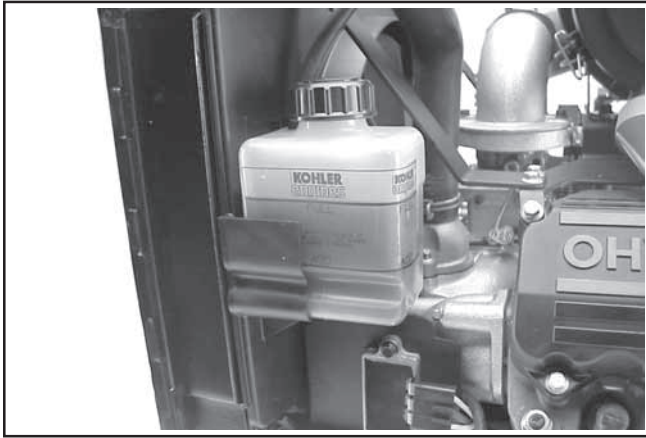

Figure 10. Coolant Levels on Reservoir.
1. Check the coolant level in the overflow reservoir. Coolant level should be between the “FULL” and “ADD” marks on the reservoir. See Figure 10. **Do not** operate the engine with the coolant level below the “ADD” mark.